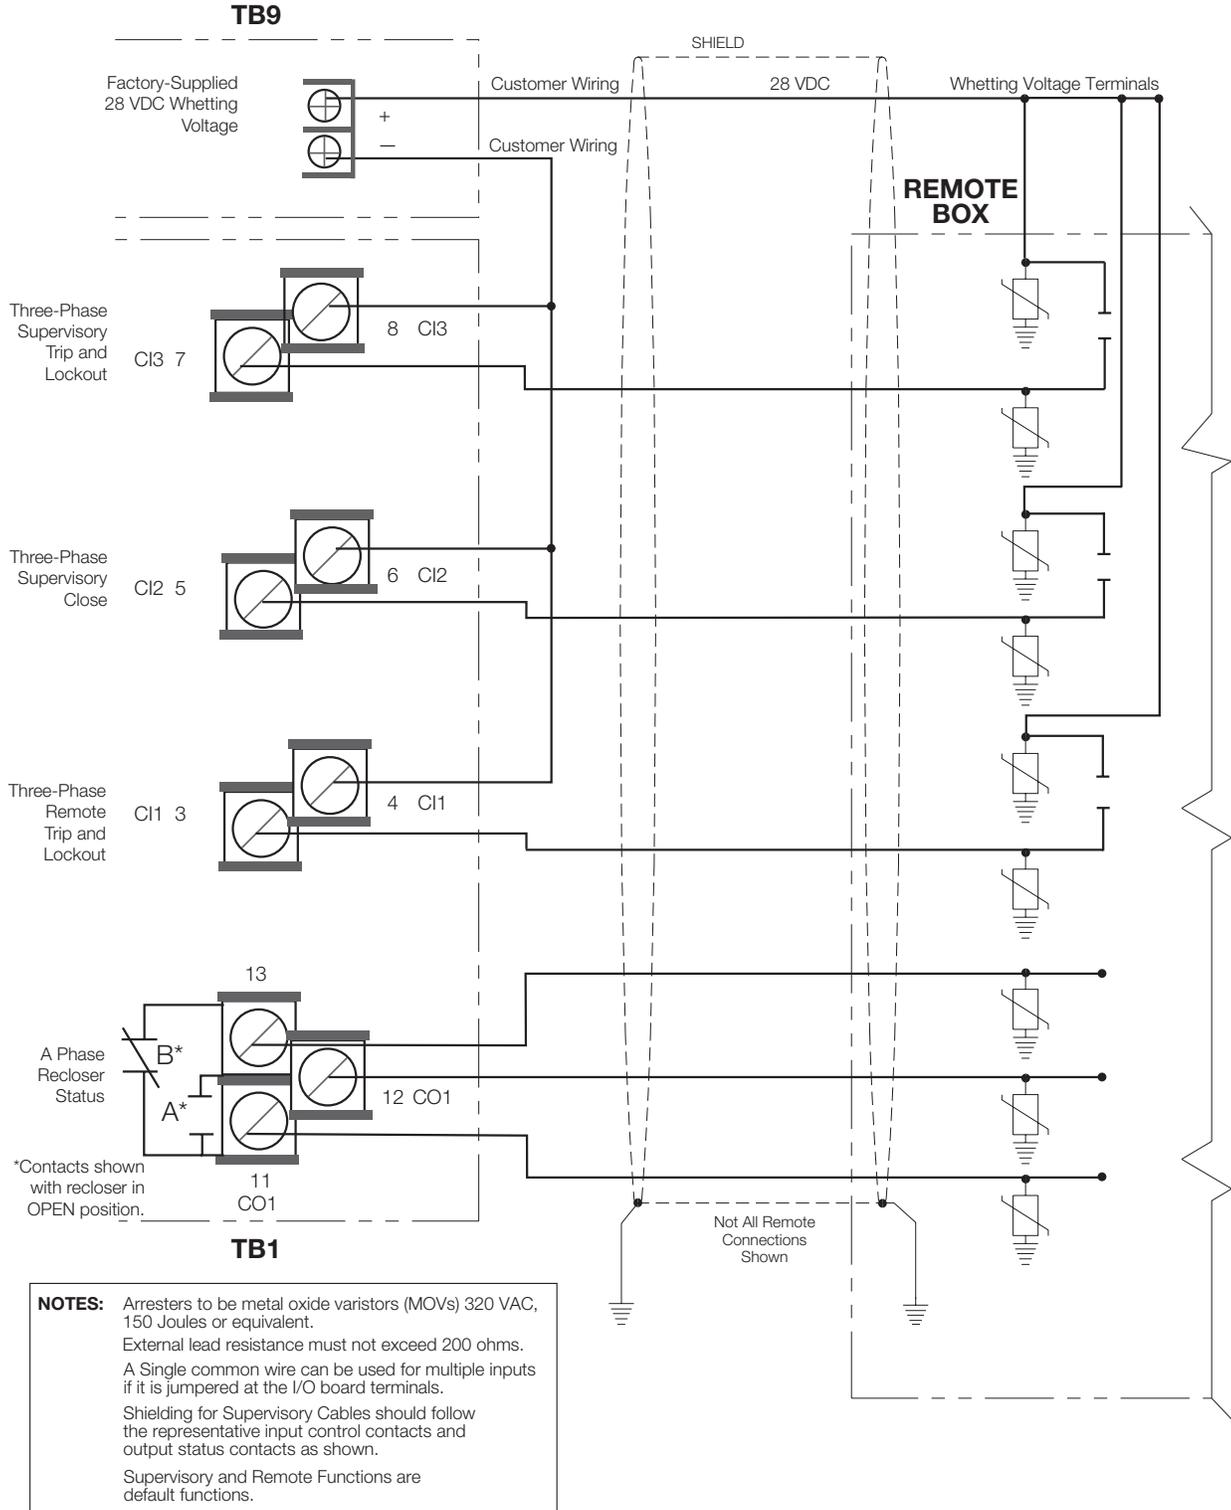

Figure 19. Shielding and surge protection for supervisory and remote cables
All supervisory operation and control monitor leads must be protected within shielded cables. Refer to **Figure 19**.
12. Customer connections for remote and supervisory operation checked and completed in accordance with proper shielding and surge protection (**Figure 19**).